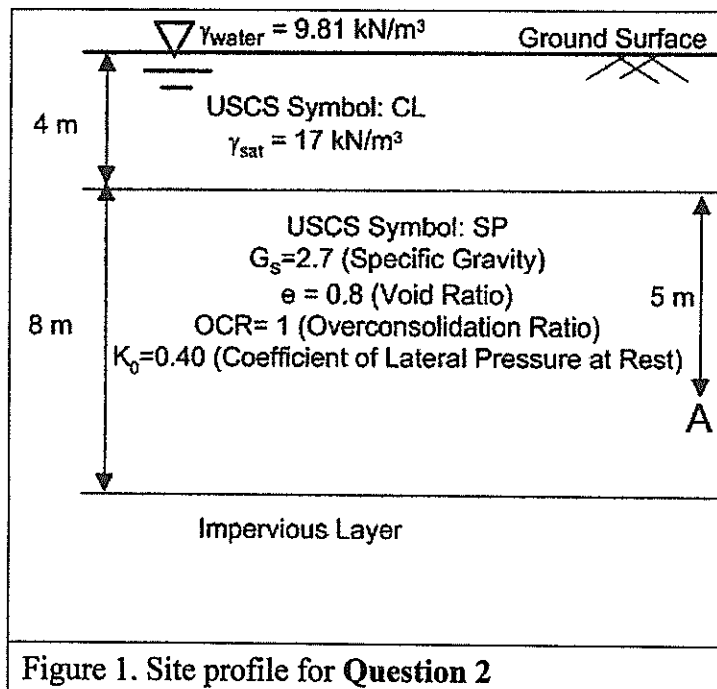

Figure 1. Site profile for Question 2
(2) (25%) A site profile is given in Figure 1.